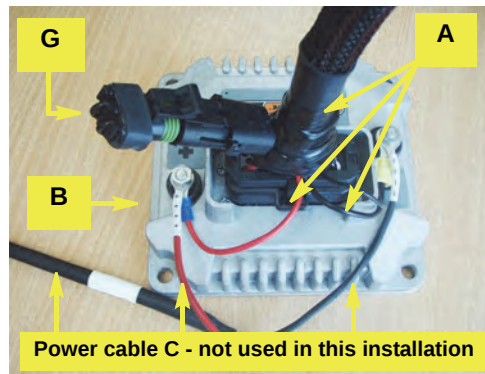

Figure 1a: Connections at AC110
- a. Install the loop back connector (terminator) **G** in the appropriate connector on interface cable **A** then connect **A** (main plug and power connectors) to AC110 **B** (red to + positive, black to - negative). Do not refit terminal nuts yet (Figure 1a). Note that power cable **C** is not used in this installation—the AC110 will get power through the connection made in step b).